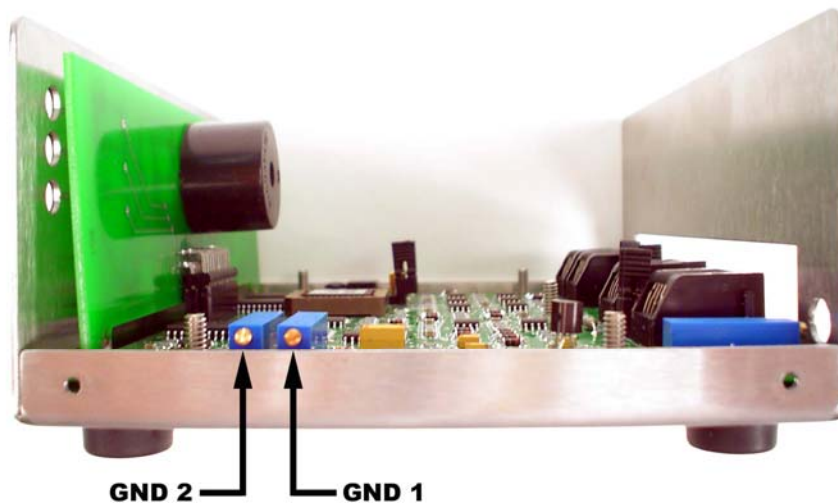

Figure 5. GND 1 and GND 2 Potentiometers
- II. The associated potentiometers need to be adjusted fully clockwise. The pots are located inside the unit on the bottom board. The potentiometer closest to the rear of the unit is for GND 1 and the one closest to the front of the unit is for GND 2 (See Figure 5).
- V. Turn the appropriate pot (See Figure 5) counterclockwise until the GROUND FAIL (red LED).
- V. Turn the appropriate pot (See Figure 5) counterclockwise until the GROUND FAILS (red LED).